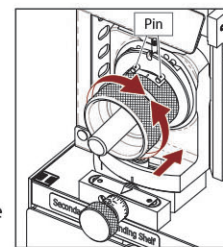

Fig. 6-1
1. 2 Flute Secondary Relief Grinding (I) (Fig. 6-1)